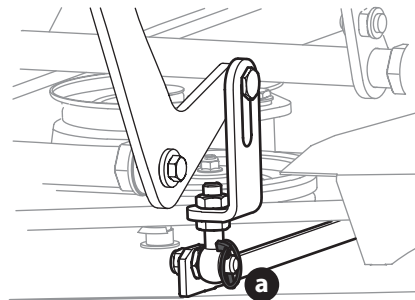

Figure 56
4. Remove the four lynch pins (a) that secure the deck to the deck lift assembly (Figure 56).